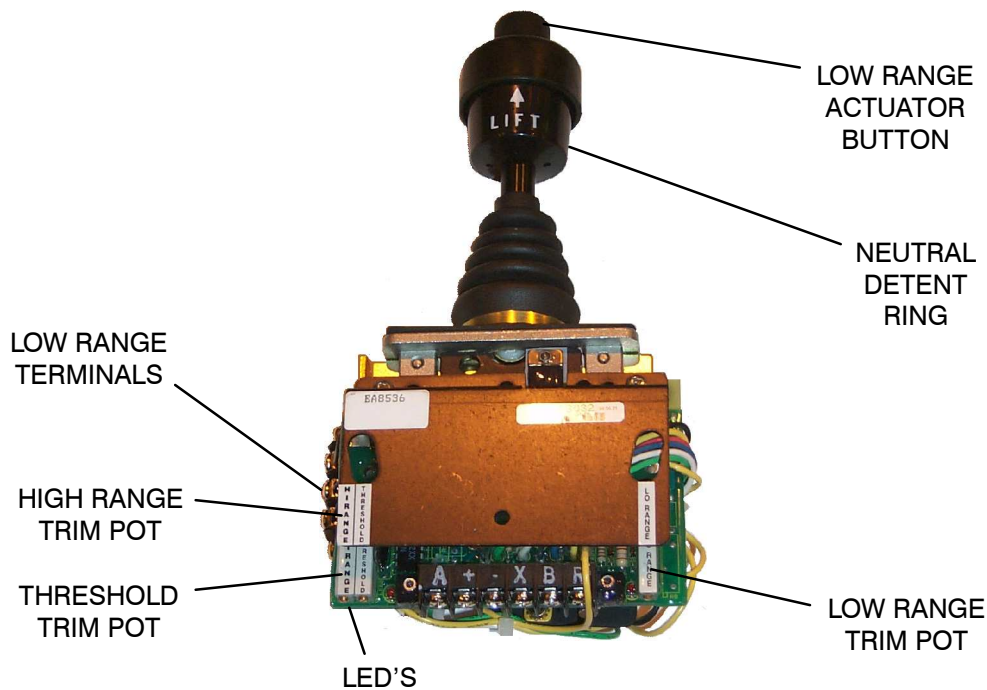

Figure 7.14-1
The Mid-Range Series drills with (low-pressure) LP compressors used for rotary drilling use the same type controller for both the “Feed” and “Rotation” functions. The feed and rotation controllers are only energized when the machine is in the “DRILL” mode. The feed and rotation controller is shown in Figure 7.14-1. These controllers are located on the Drill Functions Panel of the operators console (See Section 4 *Operating Controls* For Panel Location) and are used to control the main pumps during the drilling operations.
5. With remote control handle still fully on stroke, push and hold the "Low Range Actuator Button" (See Figure 7.14-1). Set the Low Range pot to 100 milliamps.